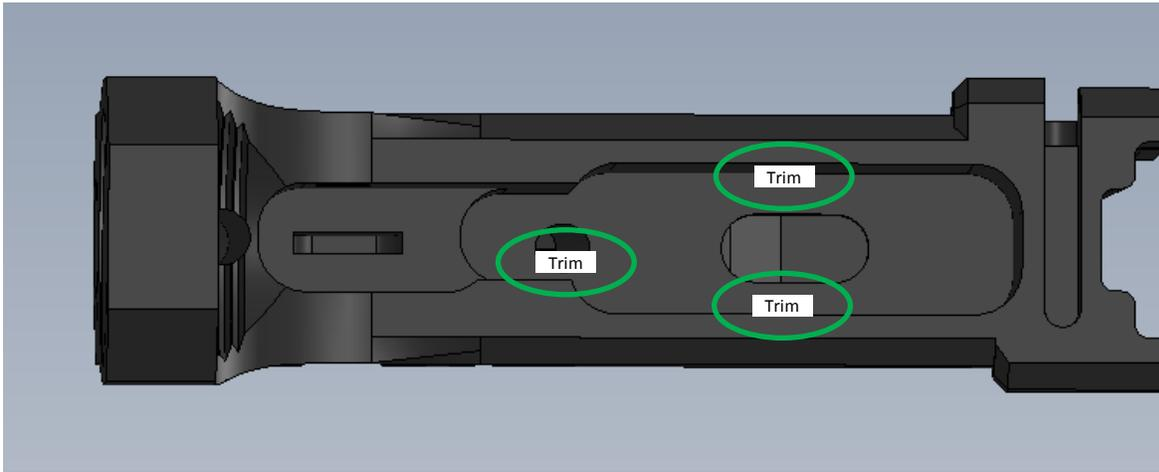

Figure 6
20. Final step is to start the trigger fitting: In **Figure 6**, there are 3 general areas that you'll focus on (besides the trigger hole itself). The trigger should just drop straight down in there cleanly, but it's never happened to me without some additional fine tuning. **Using the dremel bit on the slowest setting**, I carefully and slowly trim surfaces to make sure the trigger operates without touching anything. The rear section on the left side of the Figure 6 is where you need to be careful not to penetrate too far on the wall because the safety selector switch **detent and spring** are very close to this area, and the Milspec leaves very little room for error.